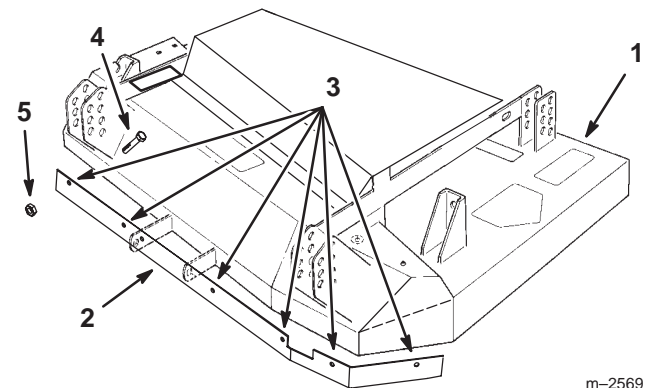

Figure 4
1. Locate the front baffle inside the front of the mower so the left end fits into the angle, and the top fits up against the top front edge (Fig. 4).
2. Using the baffle as a guide, mark and drill six holes (9 mm) in the front of the mower as shown (Fig. 4).
3. Install the front baffle inside the mower with 6 bolts (5/16 x 3/4 inch (19 mm)) from the inside, and secure with 6 thin locknuts (5/16 inch) (Fig. 4).